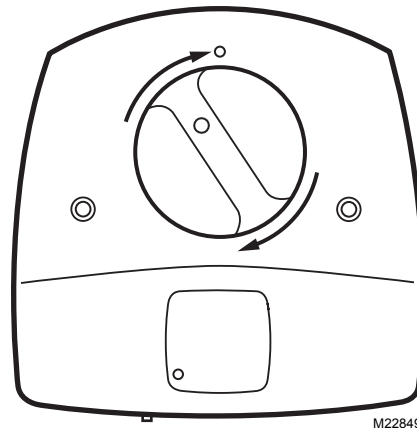

Fig. 7. Snap lamp into place.
13. Rotate the lamp handle clockwise until it snaps into place with the lamp indicator light aligned with the raised button on the unit cover. See Fig. 7.